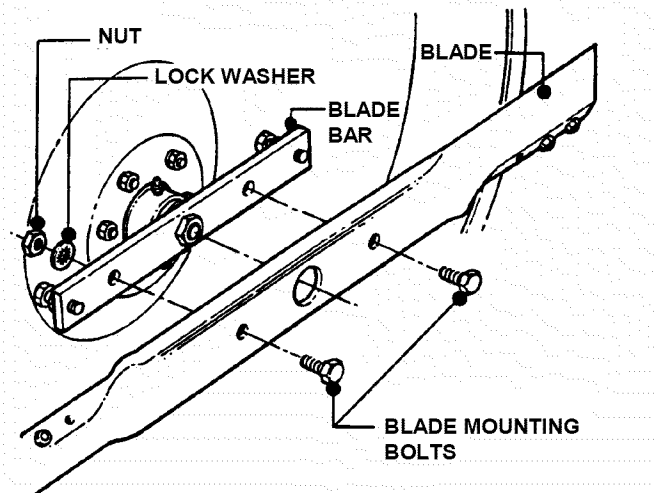

FIGURE 4.27
5. Remove blade mounting bolts, nuts and washers. See Figure 4.27.